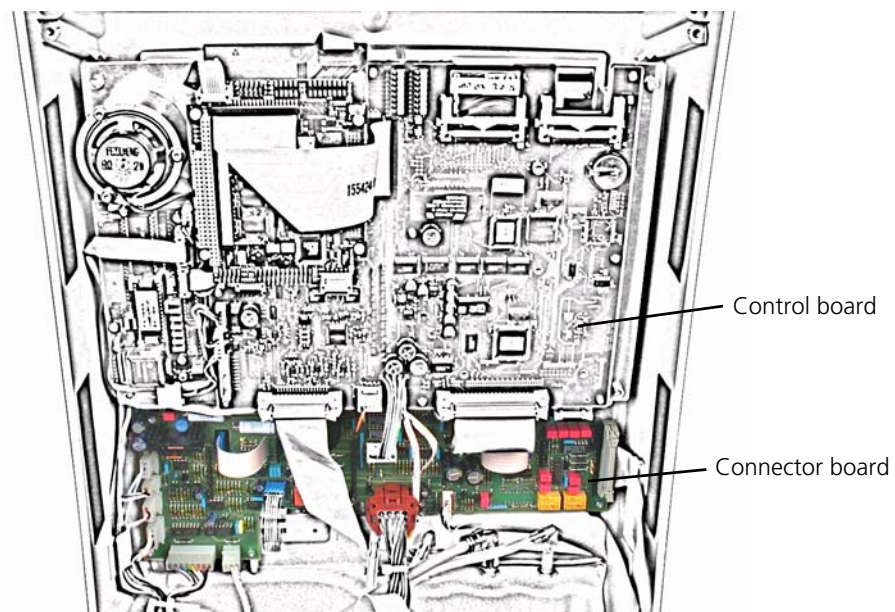

Figure 11-42. Position of the connector board inside the front enclosure
The connector board is located in the front enclosure, below the large control board, as shown in Figure 11-42 below, and Figure 3-1, *Components in the front enclosure*, on page 3-2.
2. Locate the connector board. (Figure 11-42 on page 11-39.)